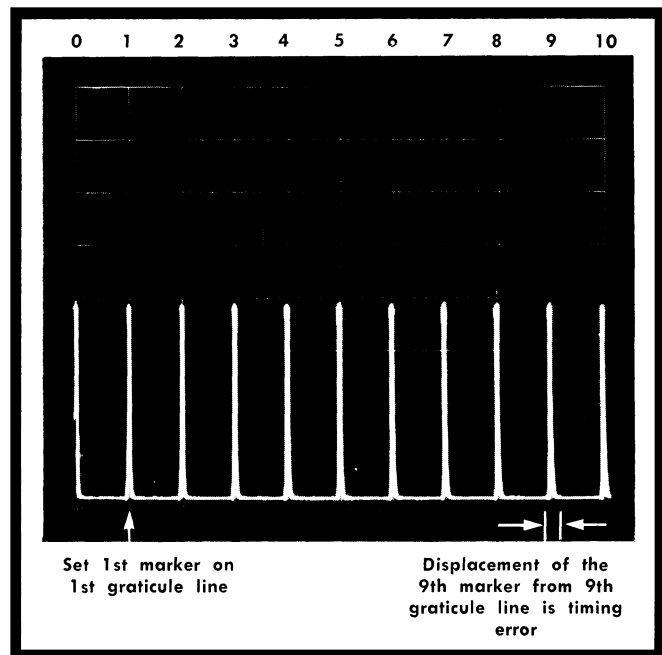

Fig. 5-1. Time markers aligned to check sweep timing.
- f. Adjust the position control to position the 1st marker to the 1st graticule line (see Fig. 5-1), then check the sweep timing for each position of the TIME/DIV selector. Marker input, TIME/DIV selector and type of display is listed in Table 5-1.